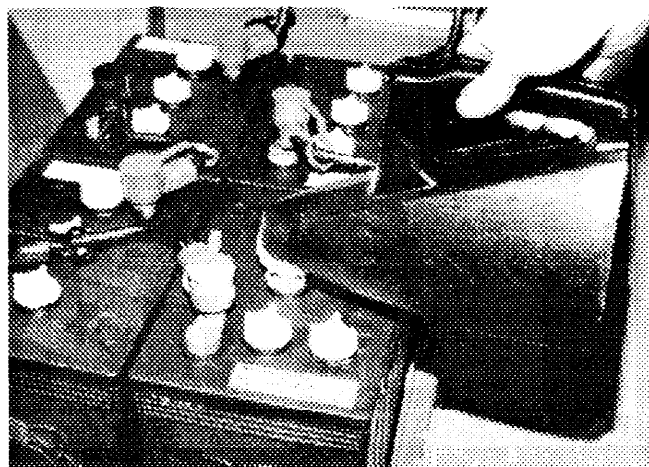

FIG. 16.
3. If needed add enough distilled water to cover plates or to a maximum of 6 mm below the fill neck ring. (Figure 16)